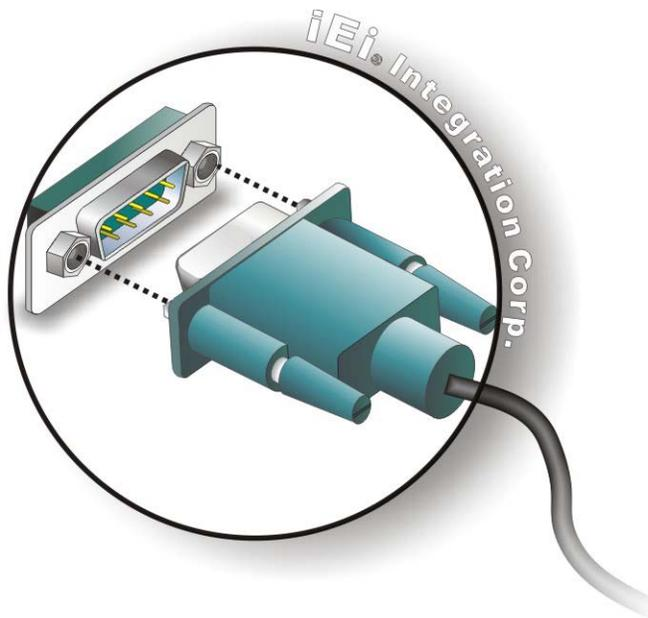

Figure 4-20: D-sub 9 Serial Port Connector
Step 2: Insert the serial connector. Insert the D-sub 9 connector of a serial device into the D-sub 9 connector on the bottom panel. See **Figure 4-20**.